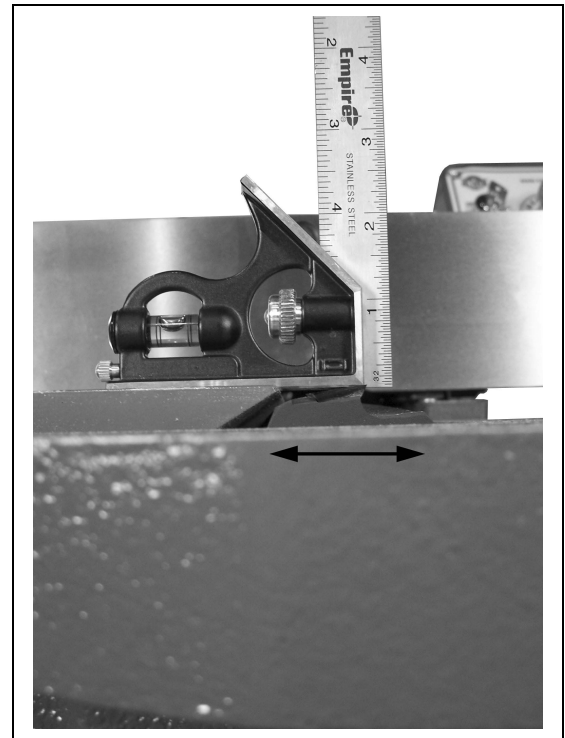
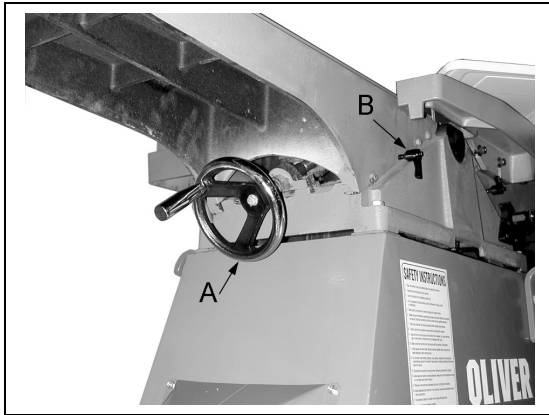

Figure 13
Figure 14
1. For proper operation the height of the outfeed table must be set to the highest point of the cutting circle. To do this, set a straight edge on the outfeed table as shown in Figure 13.
2. Carefully adjust the table height by turning the handwheel (A, Figure 14) while rocking the cutterhead back and forth as shown by the arrow in Figure 13. The table will be at its correct height when the knife, at its highest point of the cutting circle, just scrapes the bottom of the straight edge.
3. Once set, lock into place with the height lock knob (B, Figure 14).